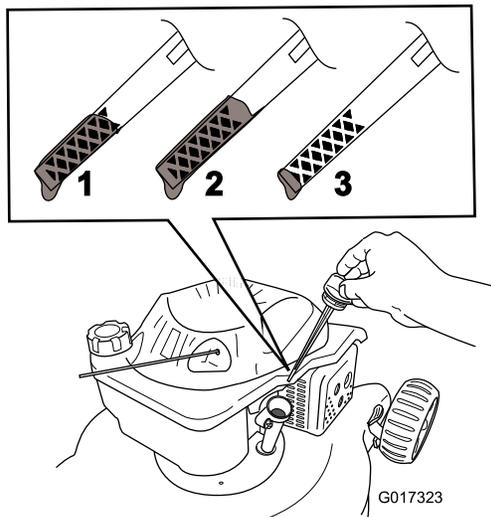

Figure 5
2. Remove the dipstick (Figure 5).
3. **Slowly** pour oil into the oil fill hole, wait a few minutes, and check the oil level on the dipstick by wiping the dipstick clean and then inserting, **but not screwing in**, the oil fill cap into the hole (Figure 5).
Note: Fill the engine crankcase with oil until the dipstick indicates that the engine oil level is correct as shown in Figure 5. If you overfill the engine with oil, remove the excess oil as directed in Changing the Engine Oil.